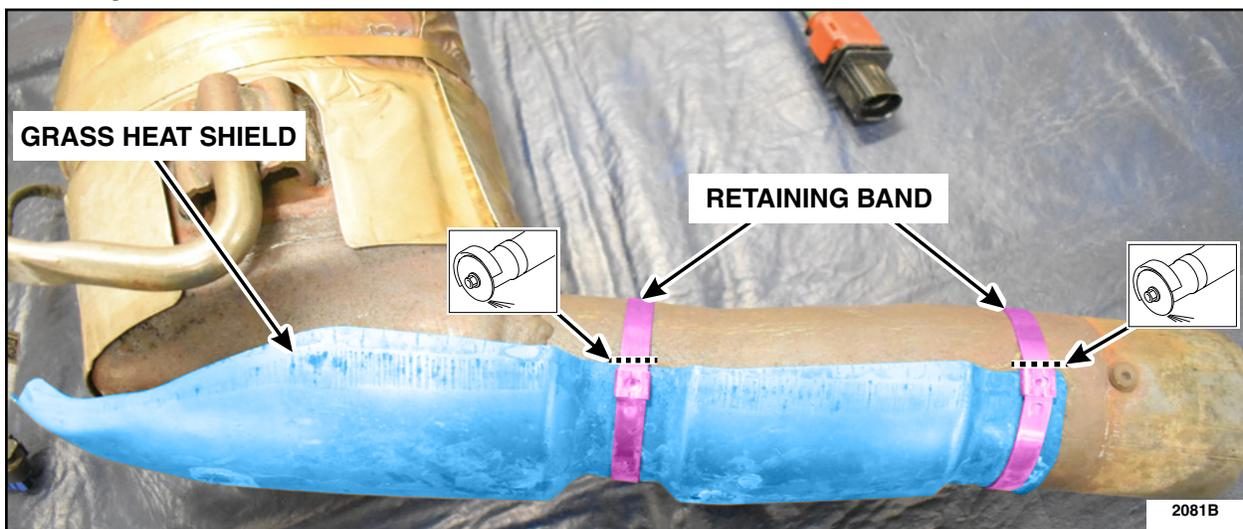

FIGURE 10
6. Cut the retaining bands holding the grass heat shield to the catalytic converter, then remove and set aside the lower heat grass shield and discard the retaining bands and the catalytic converter. See Figure 10.